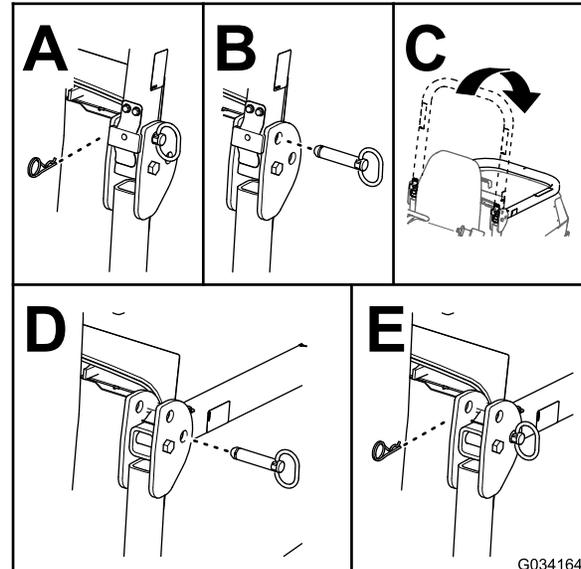

Figure 27
2. Remove the cotter pins and pins from the roll bar (Figure 27).
3. Lower the roll bar and secure it in place with the pins and cotter pins (Figure 27).